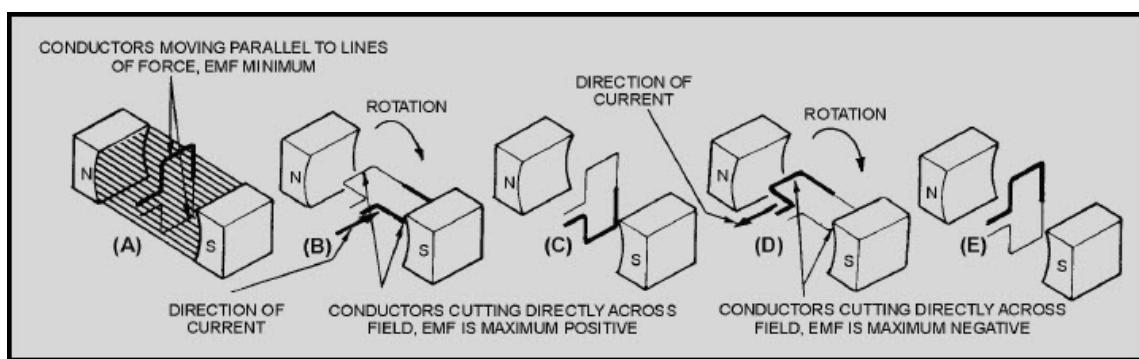

Figure 1-7 Simple alternating-current generator
Figures 1-7 and 1-8 show a suspended loop of wire (conductor) being rotated (moved) in a clockwise direction through the magnetic field between the poles of a permanent magnet. For ease of explanation, the loop has been divided into a dark half and light half. Notice in (A) of the figure that the dark half is moving along (parallel to) the lines of force. Consequently, it is cutting NO lines of force. The same is true of the light half, which is moving in the opposite direction. Since the conductors are cutting no lines of force, no emf is induced. As the loop rotates toward the position shown in (B), it cuts more and more lines of force per second (inducing an ever-increasing voltage) because it is cutting more directly across the field (lines of force). At (B), the conductor is shown completing one-quarter of a complete revolution, or  $90^\circ$ , of a complete circle. Because the conductor is now cutting directly across the field, the voltage induced in the conductor is maximum. When the value of induced voltage at various points during the rotation from (A) to (B) is plotted on a graph (and the points connected), a curve appears as shown below.